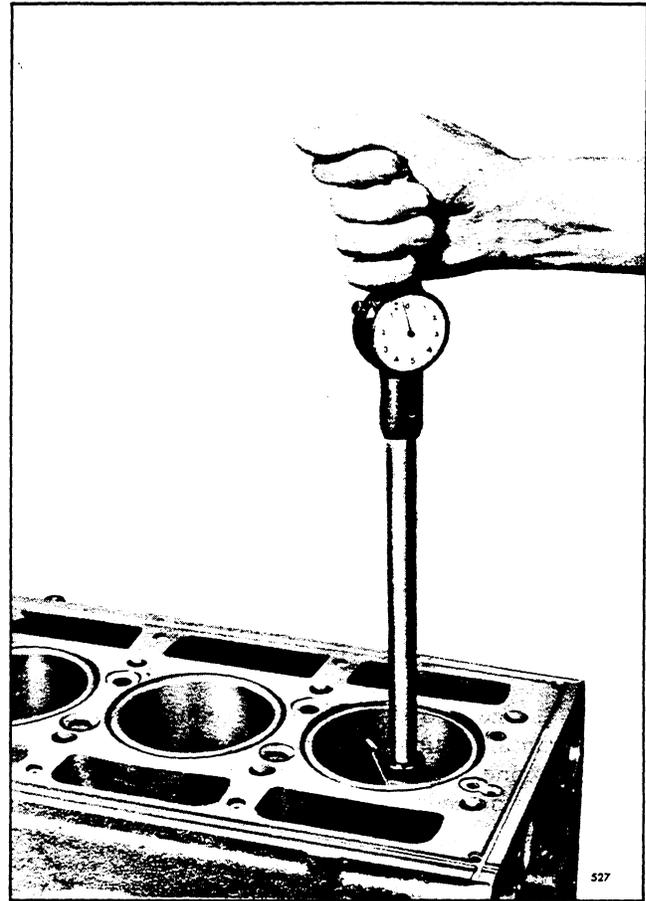
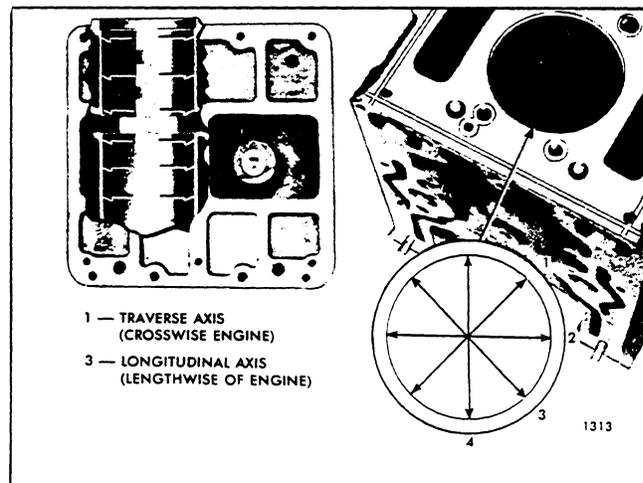

Fig. 12 - Checking Bore of Cylinder Block with Tool J 5347-01
Fig. 13 - Cylinder Bore Measurement Diagram
- b. Measure the entire bore of each cylinder with cylinder bore gage J 5347-01 (Fig. 12) which has a dial indicator calibrated in .0001" increments. The standard block bore is 4.6260" to 4.6275". Place the bore gage in the master ring gage J 8386-01 which has an I.D. of 4.6270" and set the dial to zero. Take measurements on the cleaned-up surface only at positions A, B, C, D, E and F in the bore on axes 45° apart (Fig. 13). Read the measurements from the zero mark on the gage. The readings may be recorded on a form similar to the one illustrated in Fig. 14.